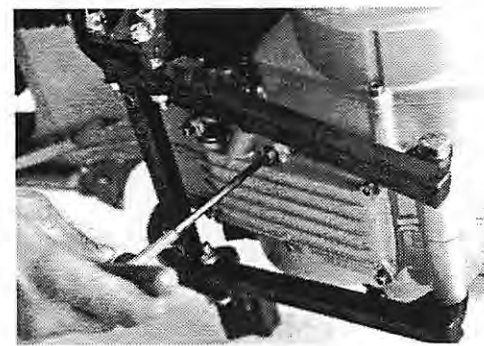
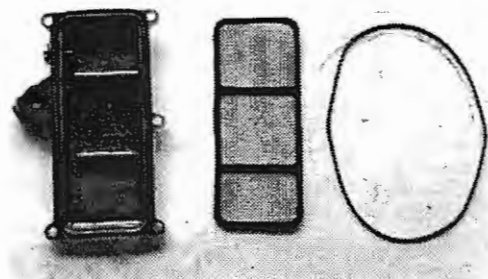

Figure 4.5
Figure 4.6
5. Remove the six sump cover screws using a 5 mm Allen wrench. Remove the oil sump screen and gasket. (Figure 4.5)(Figure 4.6)